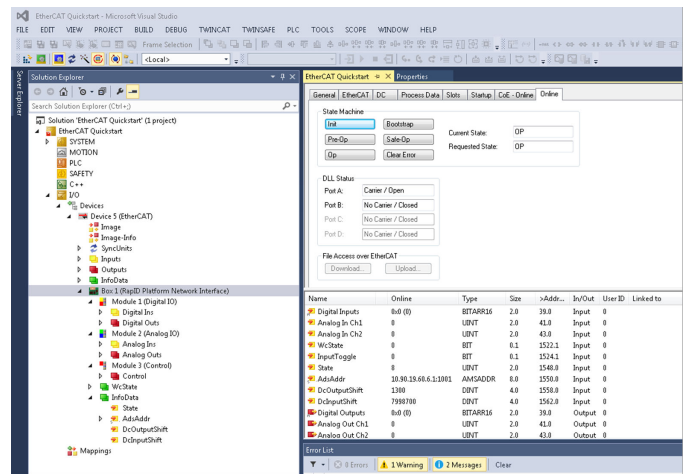

Figure 27. EtherCAT State Machine
8. Click **Yes** and then navigate to the **Online** tab. Notice the **Current State** and **Requested State** boxes are both set to **OP** (see Figure 27). A ladder logic program can now be created that toggles a bit in Item 500.